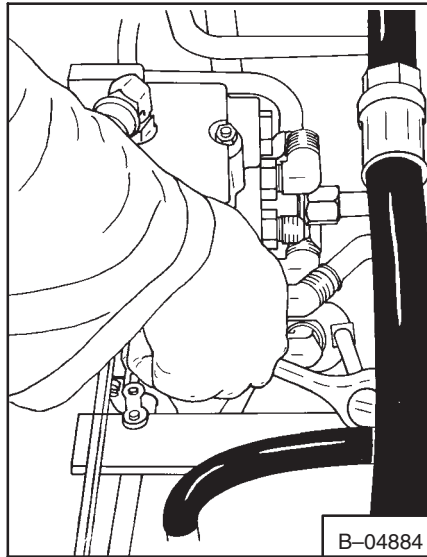

Fig. 2-6 Removing Hoses and Tubelines
7. Remove all the tubelines from the control valve (Fig. 2-6).